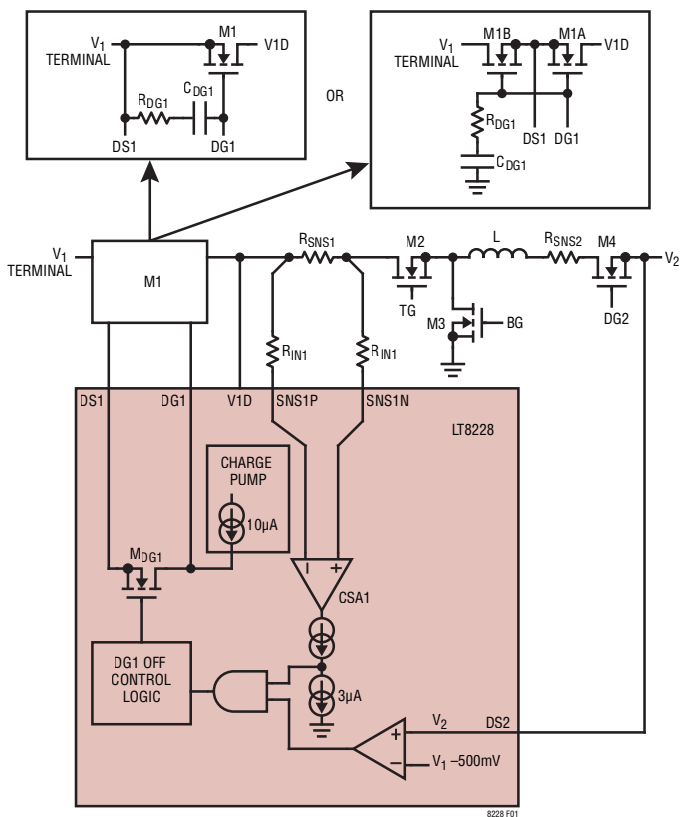

Figure 1. M1 Control in Buck Mode
The LT8228 provides protection functionality at the V₁ terminal using two N-channel MOSFETs M1A and M1B connected back-to-back in series or a single N-channel MOSFET M1 as shown in Figure 1. In dual MOSFET back-to-back configuration, DS1 is the source and DG1 is the gate of both M1A and M1B. V1D is the drain of M1A and V₁ is the drain of M1B. In single MOSFET configuration, the source of M1 is connected to DS1 and the V₁ terminal, DG1 is the gate and V1D is the drain. The advantages of the dual MOSFET configuration are inrush current control and complete isolation of the V₁ terminal in a fault condition. In normal operation, the controller drives DG1 high with a typical 10μA pull-up current that enhances the V₁ protection MOSFETs to provide a low loss conduction path between V₁ and V1D. The DG1 voltage is clamped at a typical value of 10V above DS1. The DG1 controller shorts DG1 to DS1 thereby isolating V₁ from the rest of the circuit when (1) the LT8228 is disabled or
The buck mode operation circuitry of the V_1 protection MOSFET controller is shown in Figure 1. Without protection MOSFETs, there is a direct conduction path from V_2 to V_1 through the body diode of the top MOSFET $M2$. If V_2 is higher than V_1 by a forward diode voltage, uncontrolled reverse current flows from V_2 to V_1 . Unlike other buck controllers, the LT8228 provides protection from this reverse current condition using the V_1 protection MOSFET. If V_1 falls within $500mV$ of V_2 and R_{SNS1} current passes negative threshold, the LT8228 detects reverse current. A fast pull-down circuit shorts $DG1$ and $DS1$, turning off $M1$. This isolates V_1 from $V1D$ and stops any reverse current. The reverse current detect threshold is set by Equation 11.
In dual MOSFET configuration, inrush current to C_{DM1} and C_{DM2} in buck mode is limited by controlling the $DG1$ pin voltage slew rate. In this configuration, the compensation resistor R_{DG1} and capacitor C_{DG1} are ground referenced as shown in Figure 1. At start-up, a $10\mu A$ pull-up current charges $DG1$, pulling up both MOSFET gates. $M1B$ operates as a source follower (see Equation 12).